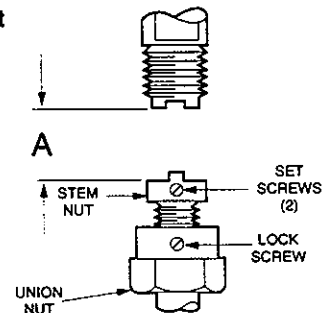

Figure 6. Stem Nut Adjustment
STEM NUT ADJUSTMENT (See Figure 6)
1. For proper seating pressure and correct valve lift, distance from bottom of actuator shaft to top of stem nut must be in accordance with value in Table 1. Dimension "A" (Figure 6) is measured with valve stem in DOWN position (closed) and actuator shaft in UP (energized) position.